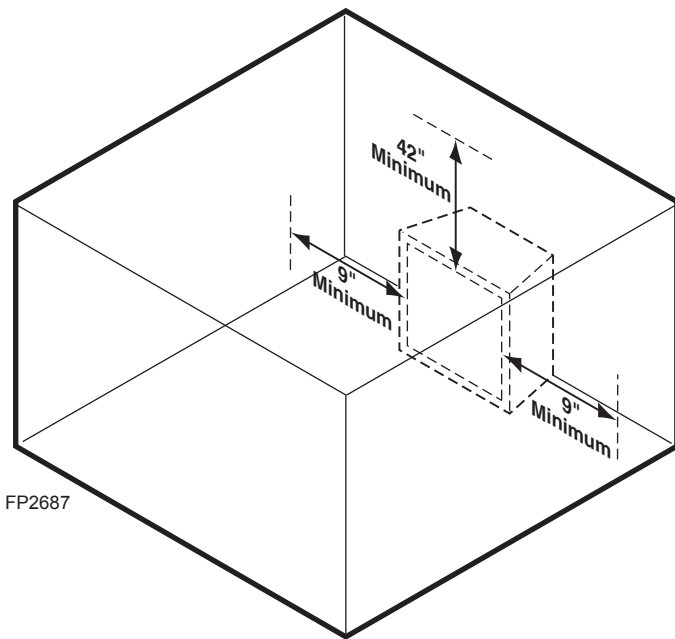

Figure 4 -
Ensure that minimum clearances shown in Figures 4 through 8 are maintained. Left and right clearances are determined when facing the front of the firebox.
1. **Sidewall clearances:** The clearance from the inside of the appliance to any combustible wall should not be less than 9". *Figure 4*
2. **Ceiling clearance:** The ceiling must be at least 42" from the top of the firebox opening. *Figure 4*